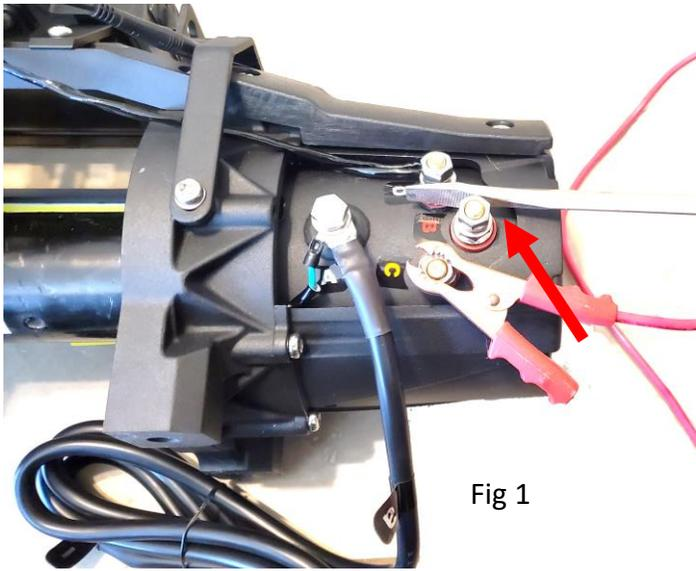

Fig 1
**Step 3:** Using a jumper cable from the positive battery terminal to terminal C (yellow) on the motor. Take care that jumper cable does not contact motor housing. Then using a screwdriver. Jumper the B (red) and the D (black) terminal. Motor should power one direction. Fig 1.